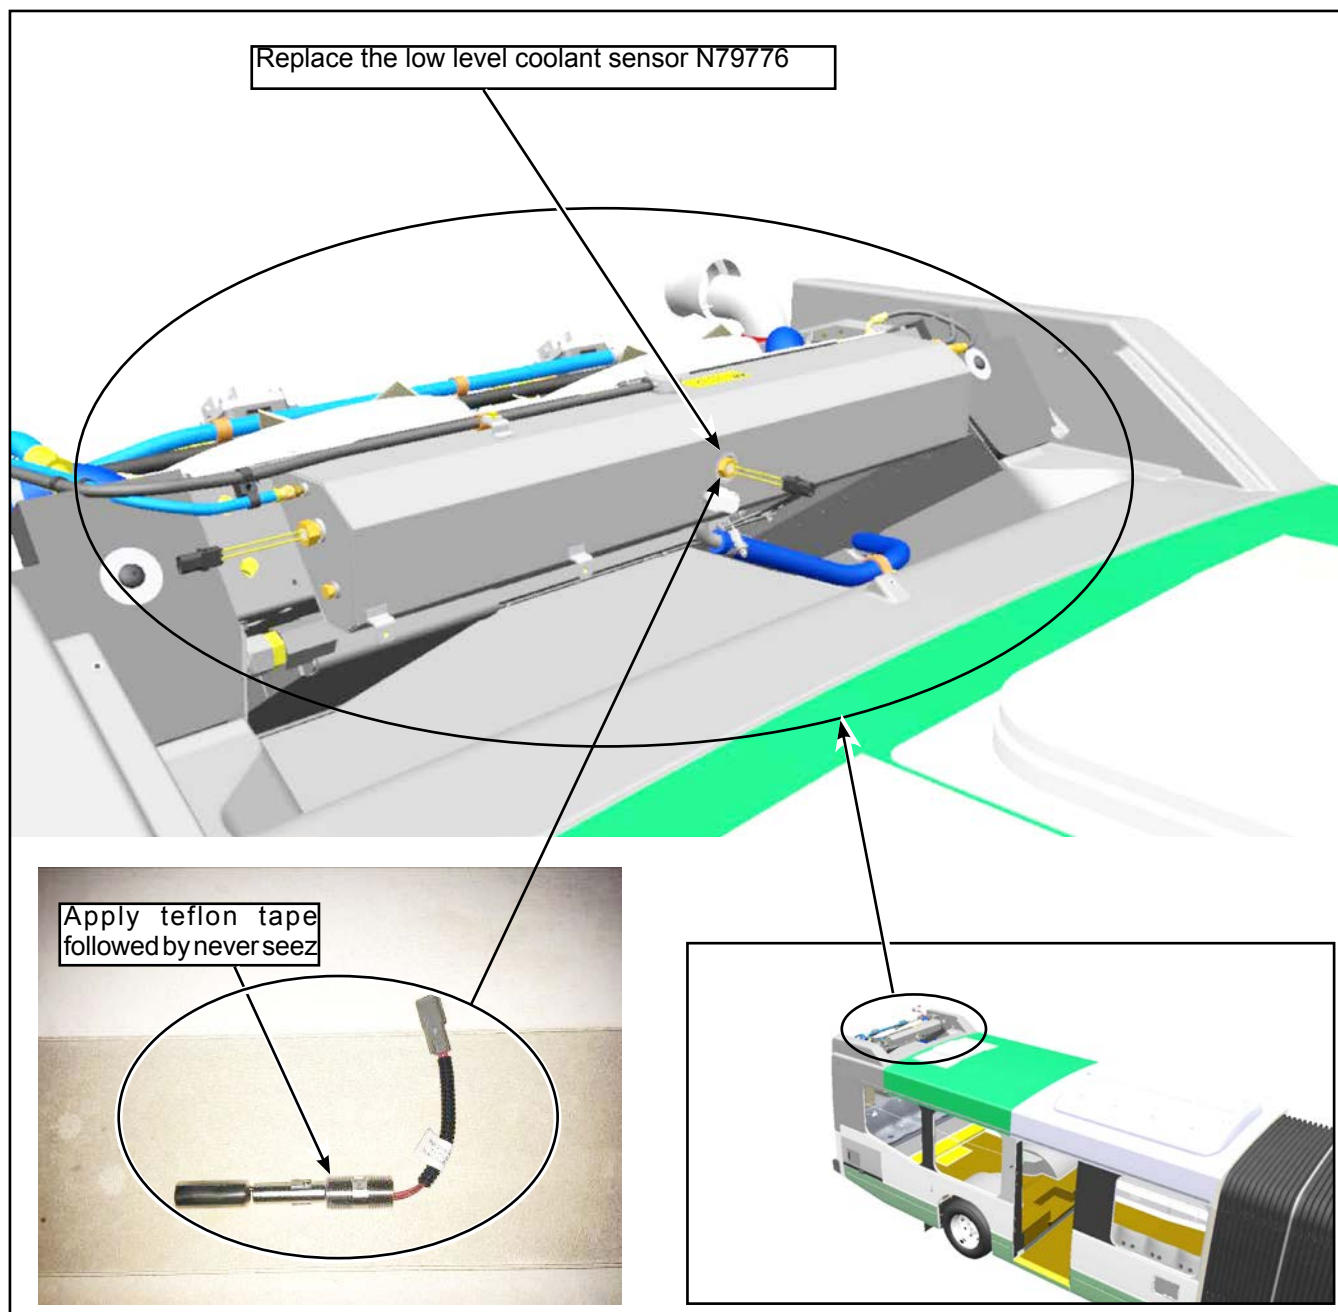

Figure 3 - Replace the low level coolant sensor
- 1.5. Disconnect the low level sensor connector and remove using a 16mm open flat wrench (see Figure 3).
- 1.6. Remove any teflon tape remaining on the threads in the surge tank. Apply teflon tape on the threads of the new sensor (see Figure 3).
- 1.7. Apply never seez over the teflon tape on the new sensor (see Figure 3).